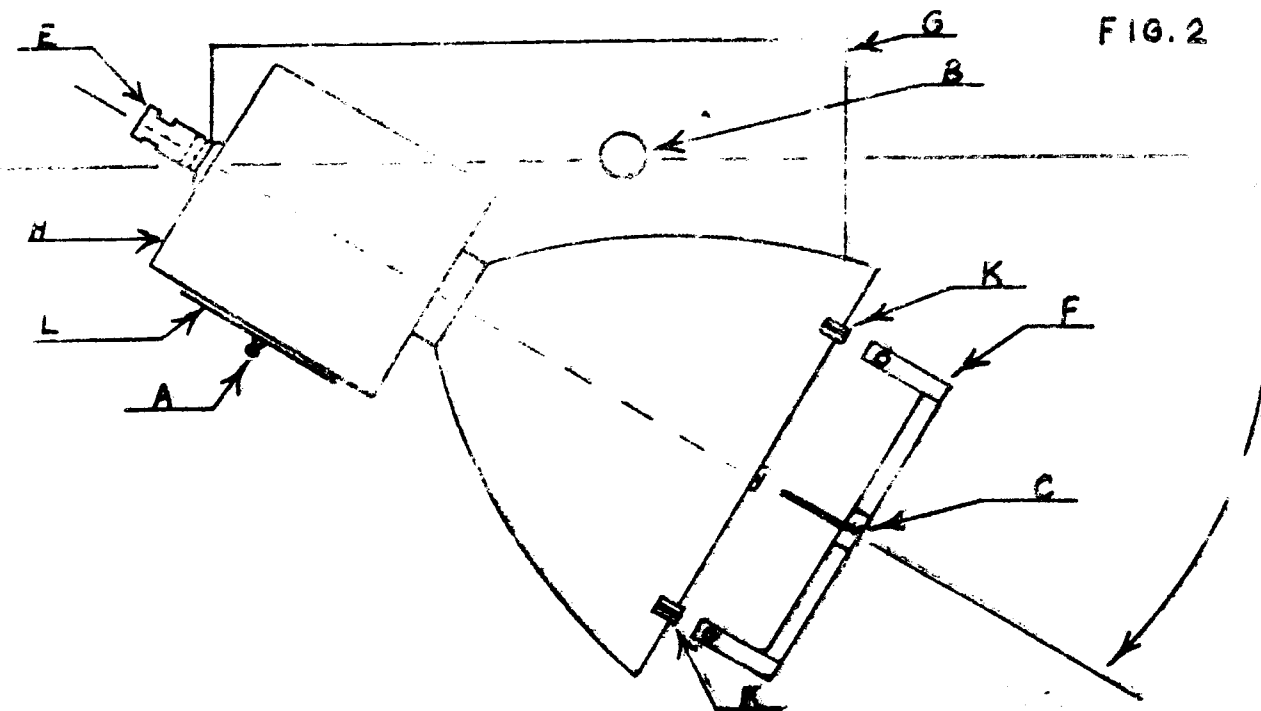

FIG. 2
5. Loosen large black knob (Item B) which permits you to swing basic unit toward you. Using Allen tool 3/32 supplied with the lamphouse, loosen the four Allen set screws (Item C) in the front spider support structure on the positive end of the bulb (Item F, Fig. 2). Holding metal portion of the positive end of the bulb with your left hand, allowing it to rest along side the opened lamphouse door. Do not allow the bulb to drop in its mount. Now grasp the positive end of the bulb with the right hand, which will free the left hand so that the 3/32 Allen tool can now be used to loosen the two (or four) Allen set screws (Item D) in the negative nickel plated bulb holder (Item E). Remove bulb from negative bulb holder by carefully pulling straight out from the device as the bulb is held by the right hand. (If this is a new installation a wooden dowel is placed for shipping purposes only and it should be removed prior to attempting to install a bulb).